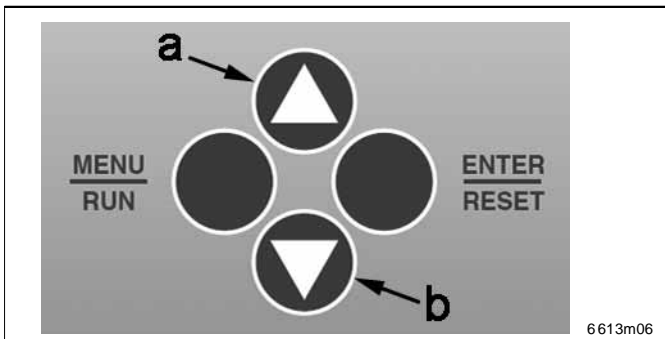

Fig. 15 Operating panel
As soon as you press the „UP“ key (pos. a, Fig. 15) outside of the configuration mode, the actual rest of the expired pause time (Fig. D) or lubricating time (Fig. E) is shown in the display.
- In the case of a field bus connection, set the system-related address code 0001 to 0255 by means of the UP and DOWN keys (see Fig. 15).
- Complete your selection with the ENTER key (Fig. 15).
The version number setting (0 - 4) is shown in the LMC2 display and is made using the UP & DOWN keys on the operating panel (see pos. a & b, Fig. 15).
- Complete your selection (0 - 4) with the ENTER key (Fig. 15).